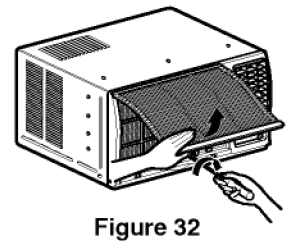

Figure 32
14. Lift the inlet grille and secure it with a type A screw through the front grille.(See Fig. 32)